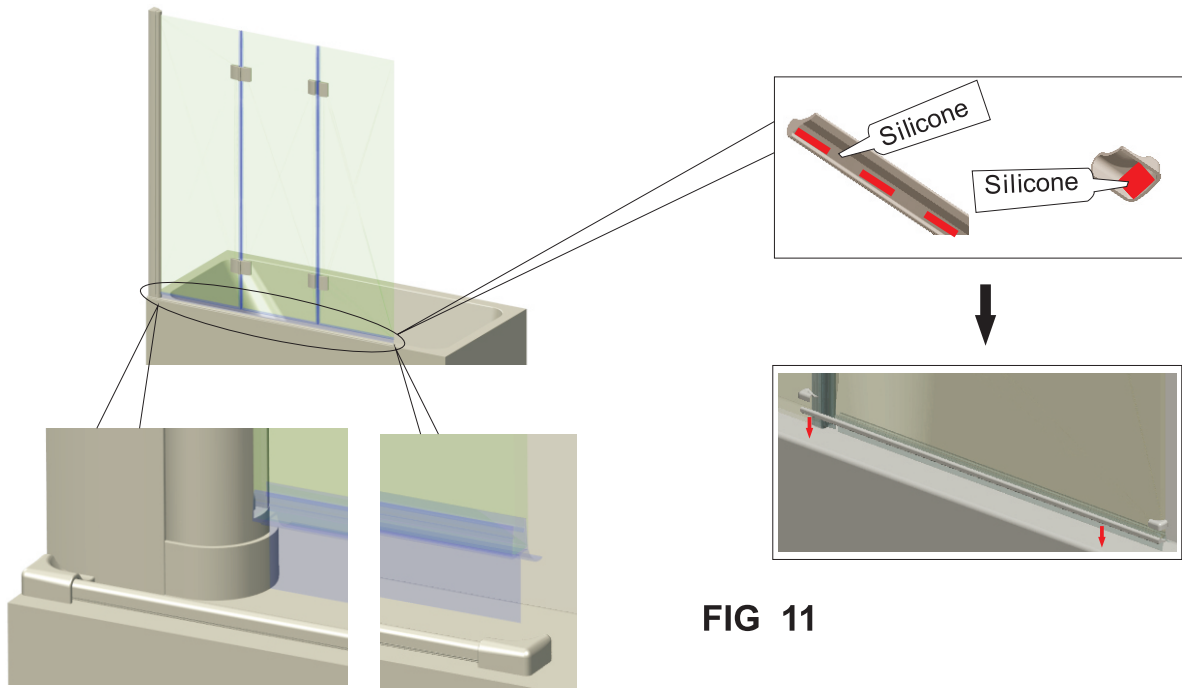

FIG 11
11. Fitting the luna rail is optional. **If fitted the panels cannot be folded out over the luna rail as they will get damaged.** Fix the luna rail on top of bath. Put a dab of silicone to bottom of each luna rail end cap (note left & right) and a thin bead of silicone to the bottom of the luna rail. Fit cap to end of fixed panel and carefully place luna rail into end cap. Ensure the luna rail is parallel to the bath edge. **Fig 11.**